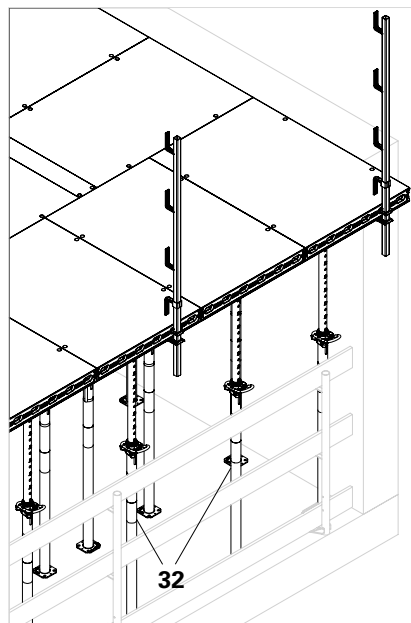

Fig. D4.06c
3. Mount the SGP guardrail post (75), push the DP panel upwards and support it using the slab prop with DFH prophead (32). (Fig. D4.06c)